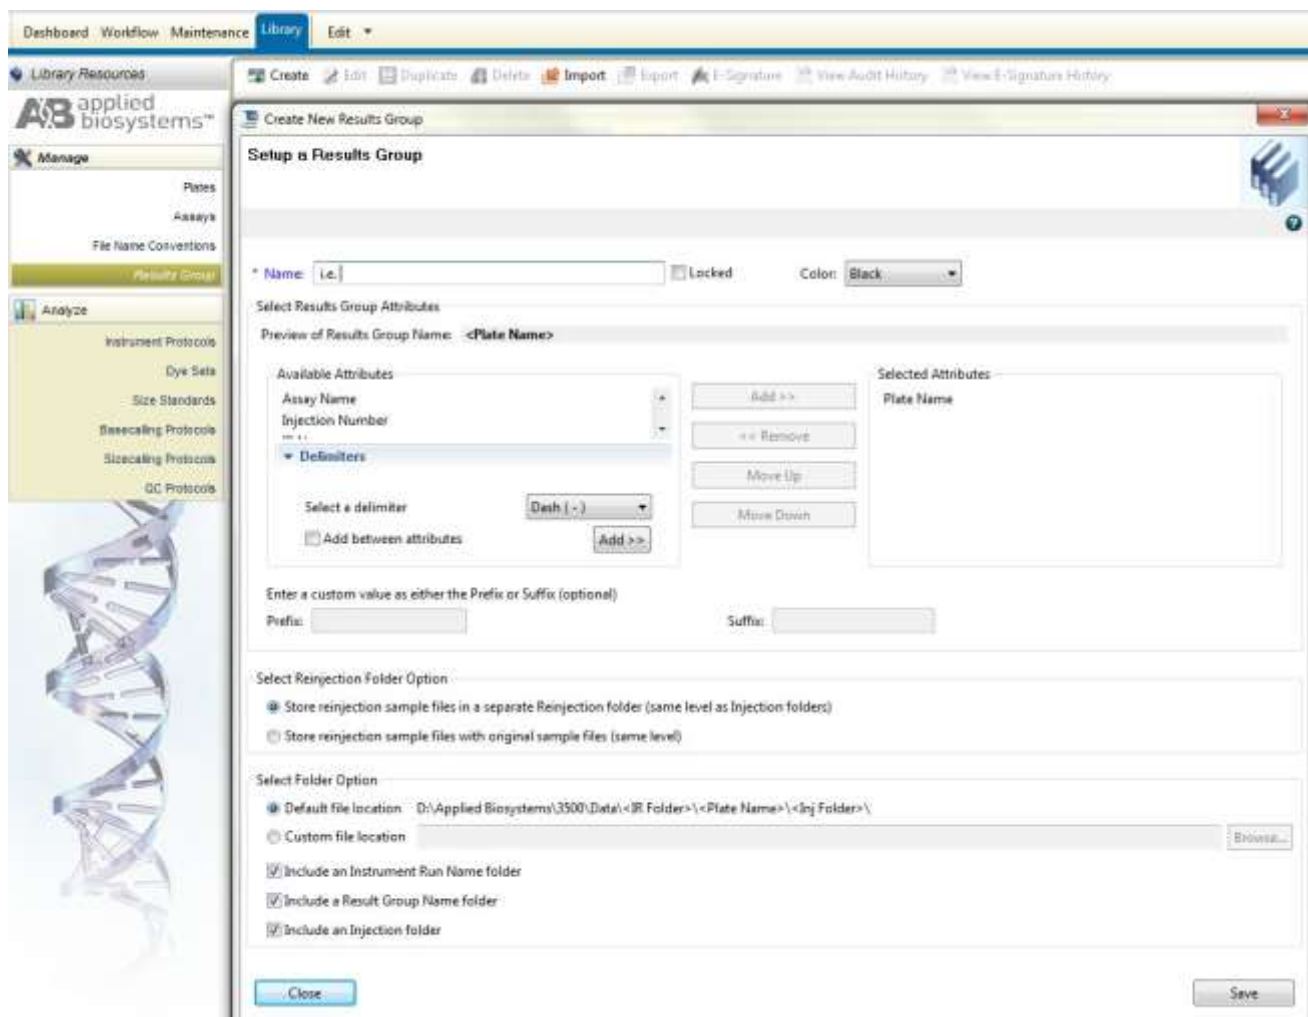

Figure 9. Screenshot for the “Create New File Name Convention” window on Applied Biosystems 3500 Data Collection software.
- c) Select “Create” (Figure 9)